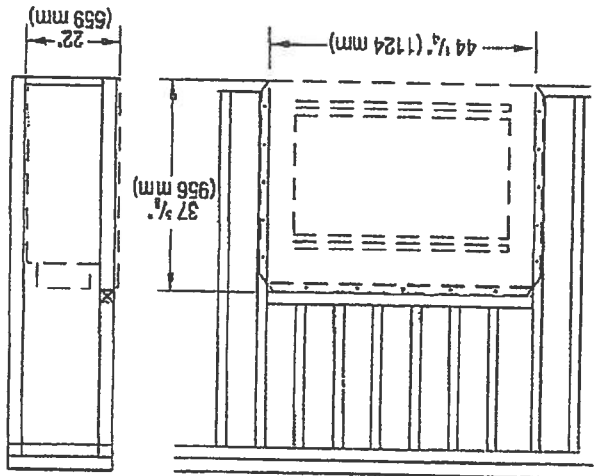

Figure 1 - Framing Dimensions
1. Location must allow for proper clearances (see Figures 1 and 2). Consider a location where fireplace will not be affected by drafts, air conditioning ducts, windows or doors.
1. Frame opening for fireplace using dimensions shown in Figures 1 and 2.